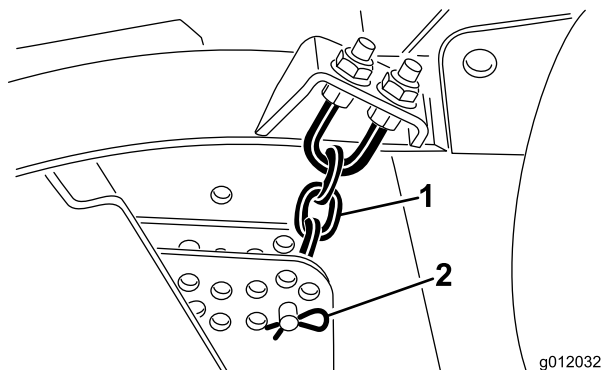

Figure 5
7. Slightly raise deck to remove tension from the height-of-cut chains. Remove hair pin cotters and clevis pins securing height-of-cut chains to rear of deck (Figure 5). Retain hair pin cotters and clevis pins for re-installation of front deck.